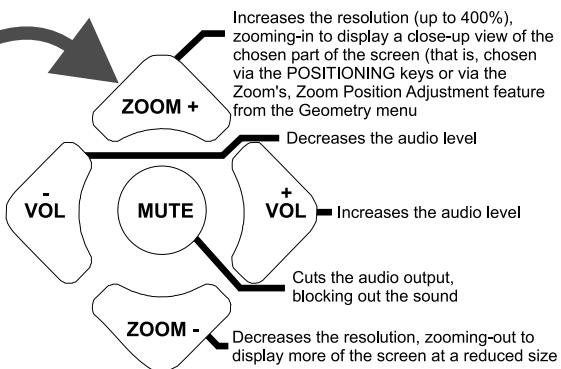
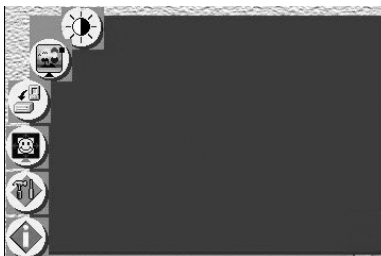
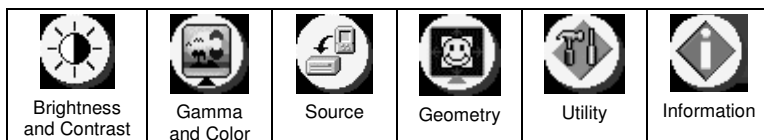

Figure 16: Infra-Red Remote Control Transmitter
Figure 17: MENU Screen
Figure 18: Menu Screen Icons
- Pressing the PIP key on the infra-red remote control transmitter (see section 7.4, Figure 16)
3 On the infra-red remote control transmitter to instantly move the position of the PIP window to up to nine preset fixed locations (see Figure 16). For example, to move to the lower right corner of the image, press the  button
- Press the SWAP key on the infra-red remote control transmitter (see Figure 16).
- When the PIP is enclosed by an orange frame, use the UP and/or DOWN navigation control keys on the infra-red remote control transmitter (see Figure 16) or the UP and/or DOWN front panel OSD buttons; otherwise
¹ On the machine, or the navigation control keys on the infra-red remote control transmitter (see Figure 16)
- Press the PANEL LOCK button or the MENU key on the infra-red remote control transmitter (see Figure 16) for a few seconds, until the “Key Lock On” OSD status appears superimposed over the top right corner of the screen for a few seconds², and all button LEDs turn off
- Press and hold the PANEL LOCK button or the MENU key on the infra-red remote control transmitter (see Figure 16) for a few seconds, until the “Key Lock Off” OSD status appears superimposed over the top right corner of the screen for a few seconds²
Figure 16 and Table 5 define³ the infra-red Remote Control Transmitter:
³ The illustration in Figure 16 shows an enlarged view of 3 separate parts of the infra-red remote control transmitter
2 Consists of a set of 9 separate keys. See the illustration in Figure 16 which shows an enlarged view of this part of the infra-red remote control transmitter
5 As Figure 17 illustrates
7 Consists of a set of 5 separate keys. See the illustration in Figure 16 which shows an enlarged view of this part of the infra-red remote control transmitter
- Press the MENU front panel OSD button or the MENU key on the infra-red remote control transmitter (see Figure 16) to display the MENU screen (see Figure 17), which displays six interactive icons¹ (defined in Figure 18)